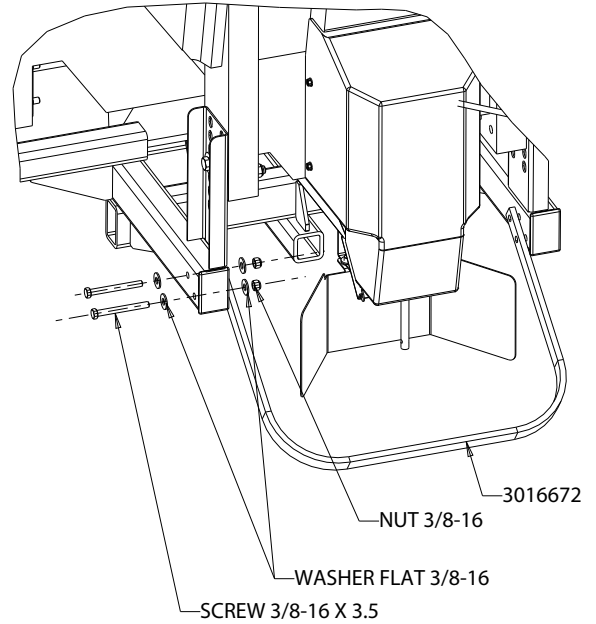

Fig. 8
8. Attach spinner protector #3016672 to spreader frame as shown in Fig.8.